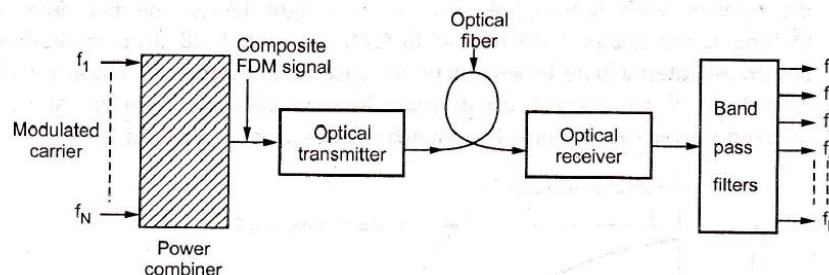

Fig. 6.1.4 Multichannel AM
- In some applications the bit rate of each channel is relatively low but the number of channels are quite large. Typical example of such application is cable television (CATV). Fig. 6.1.4 shows the technique for combining  $N$  independent channels. Different channel information are amplitude modulated on different carrier frequencies.